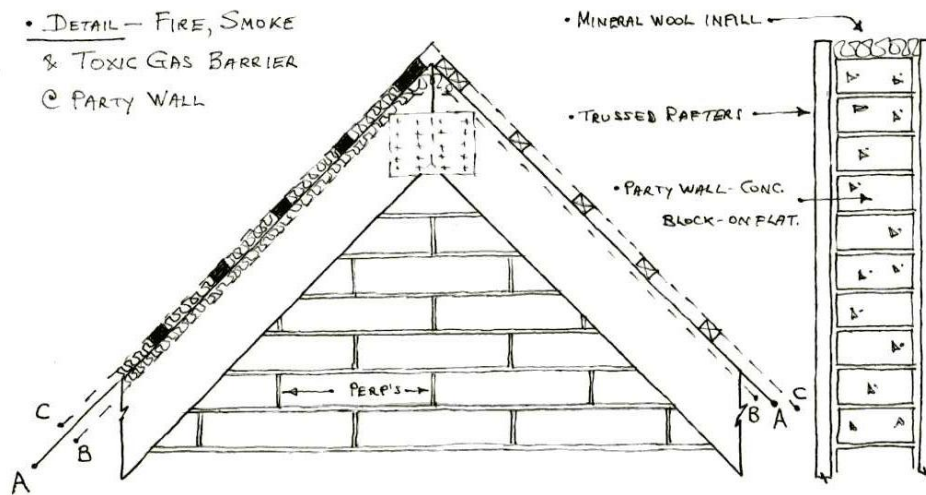
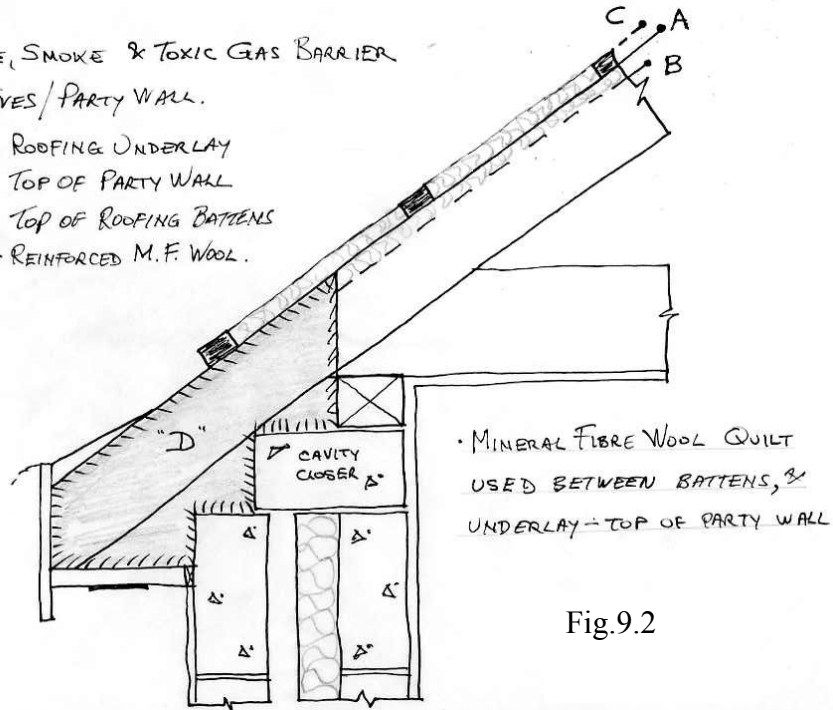

Fig 9.1
Fig.9.2
- Concrete blocks laid on flat make up the party wall. (440 x 215 x 120mm) (Fig. 9.1)
- Blocks finish 25 – 30mm below the top edge of the rafters or trussed rafters (B) positioned on both sides of the party wall.
- Mineral fibre, wool quilt is then placed in this 25-30mm gap and made friction fit between the rafters. It is placed in mild compression when the underlay (A) and roofing battens are laid.
- Another layer of mineral fibre quilt is then placed on top of the felt (C) between the roofing battens along the entire party wall.
- Semi rigid, reinforced mineral fibre is also positioned at the eaves. (Fig. 9.2)